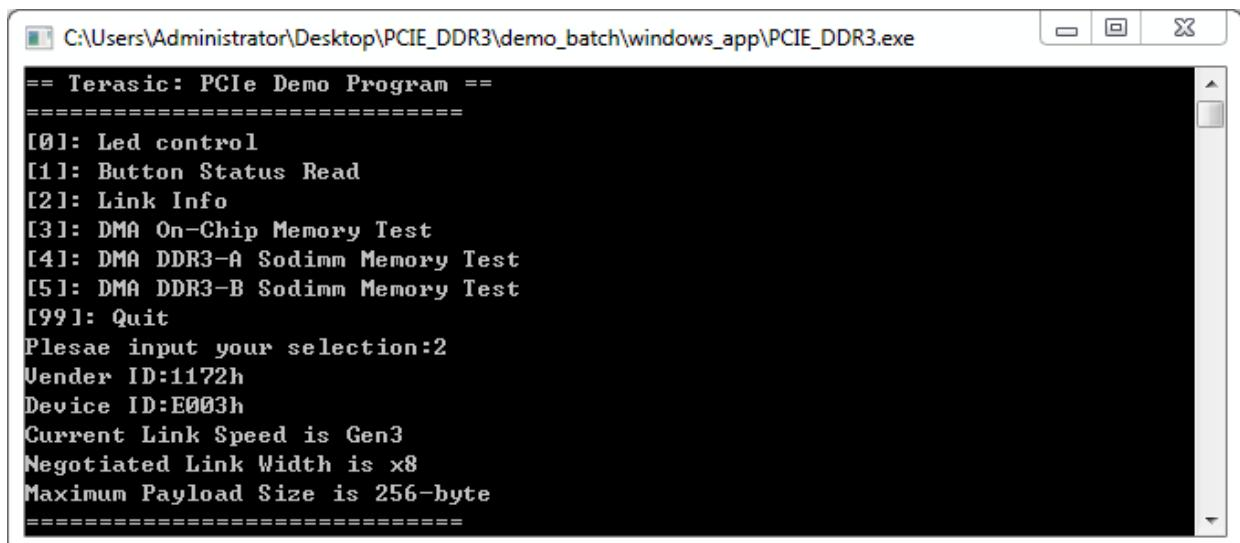

Figure 7-17 Screenshot of Link Info
8. Type 2 followed by the ENTER key to select Link Info item. The PCIe link information will be shown as in Figure 7-17. Gen3 link speed and x8 link width are expected.